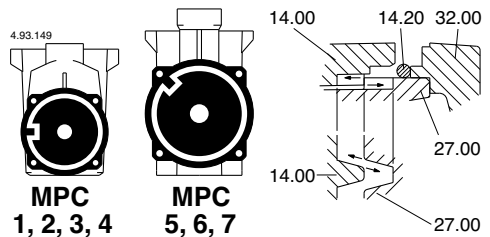

Fig. 6 Locating lug/slot for assembling pump casing (14.00) - diffuser cover (27.00).
**When replacing the motor assembly with the impeller be careful to insert the locating lug inside the pump casing (14.00) into the locating slot on the diffuser cover (27.00) (fig. 6).**